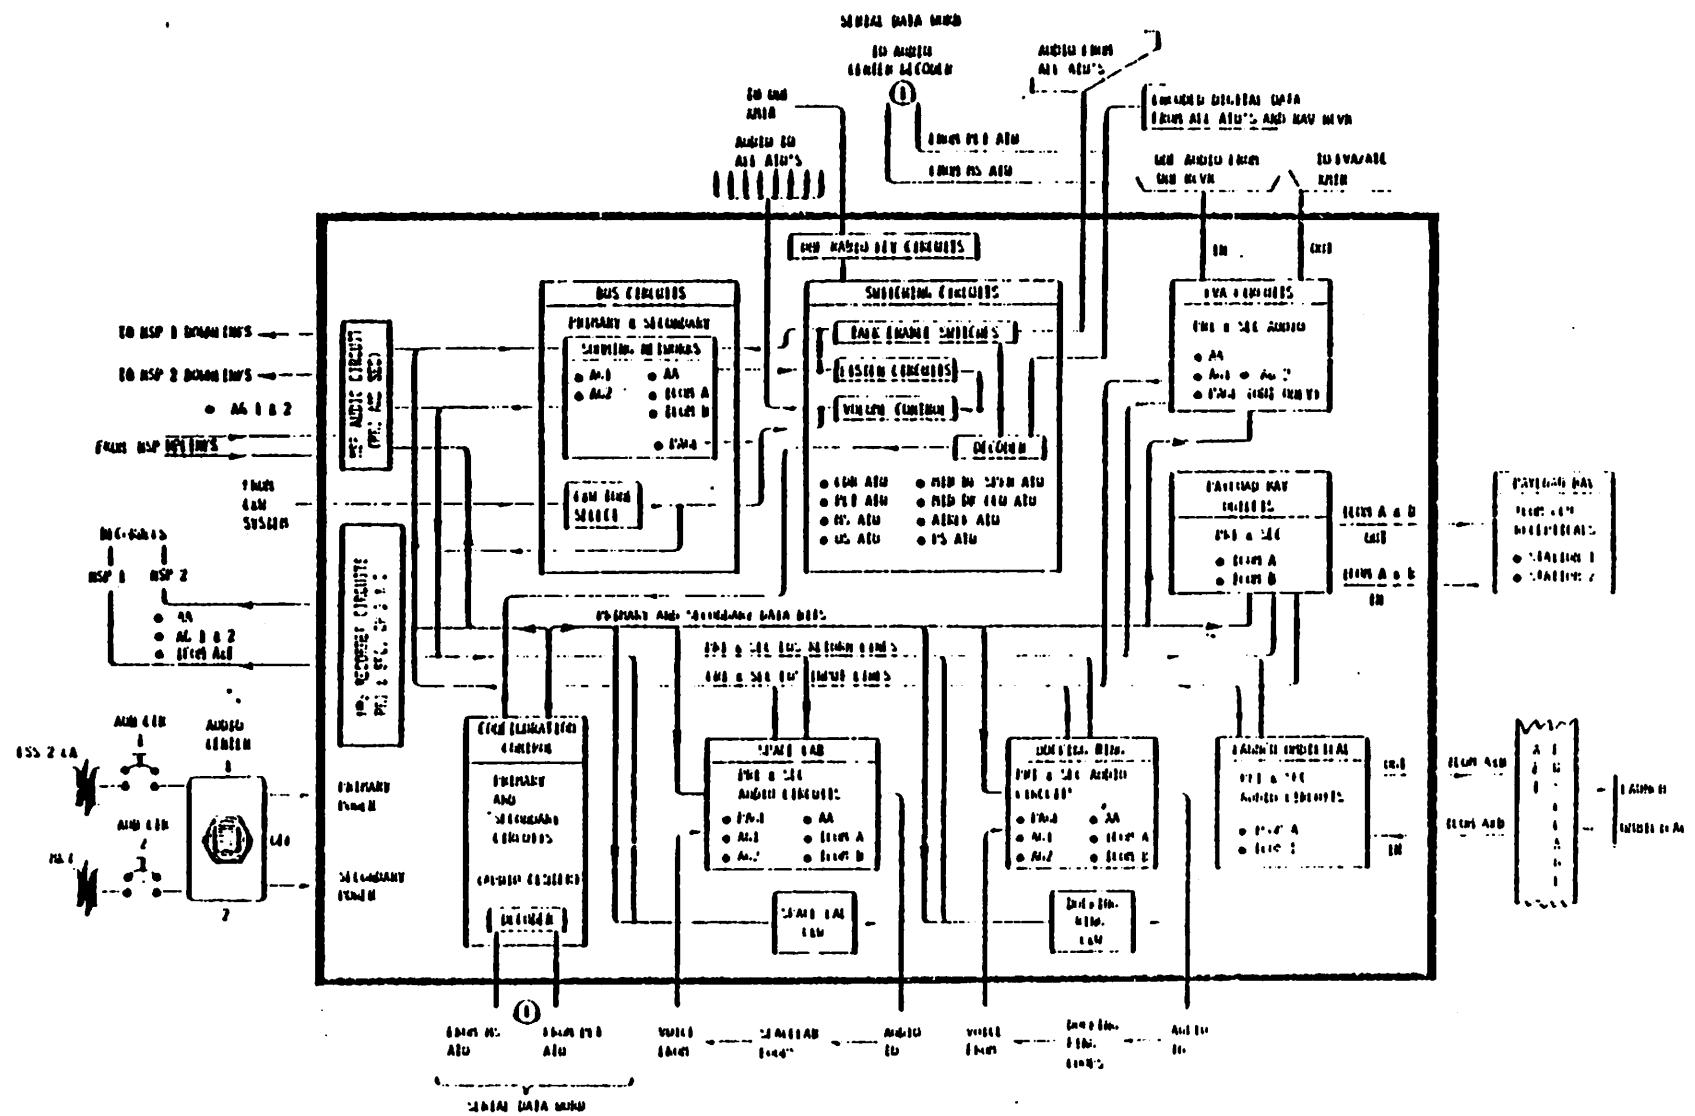

Figure 3-20. ACCU Circuitry.
- F. Figure 3-20 - ACCU Circuitry